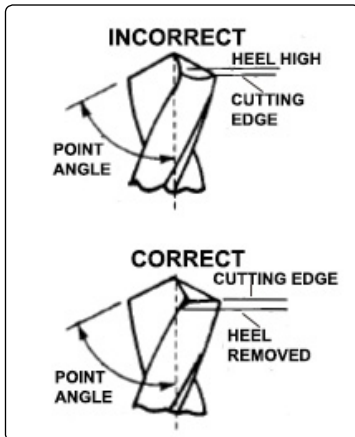

fig.4
- 5.3.2. Some drills may sharpen with a heel behind the cutting edges, fig.4. Remove this free hand so that the drill will cut freely.